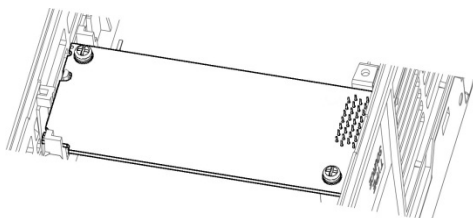

Figure 7: Interface Card Mounting Completed
4. Install the two M3 x 6mm screws included with the kit into the standoff mounting holes located at the upper-left and lower-right hand corners of the interface card. Tighten the screws to secure the interface card to the control board PCB. Refer to Figure 7.